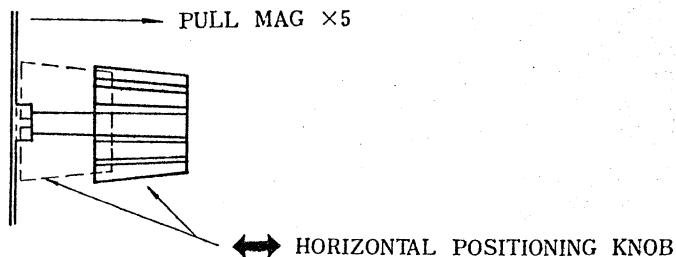

Fig. 3-7 Position of MAG  $\times 5$  knob in use.
2. Pull forward the MAG  $\times 5$  knob, see Fig. 3-7.